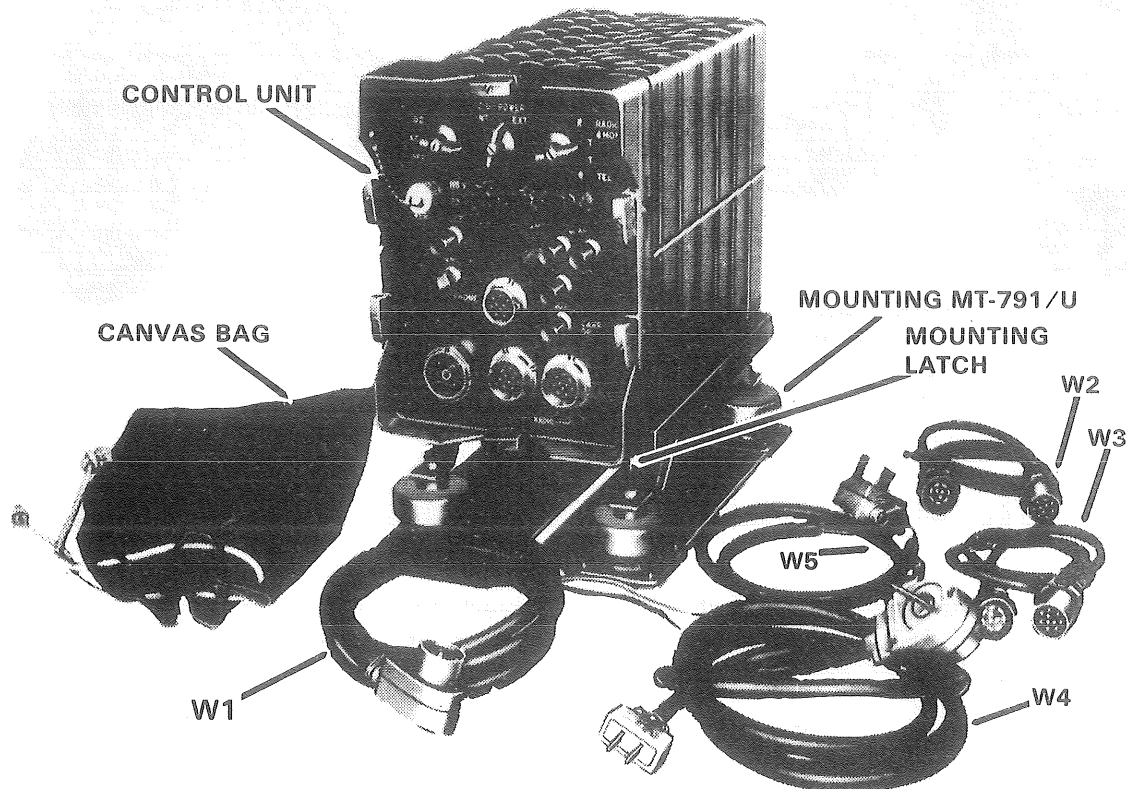

Figure 1. Radio Set Control AN/GSA-7.
- a. Insure Radio Set Control AN/GSA-7 is complete. (Refer to fig 1.)